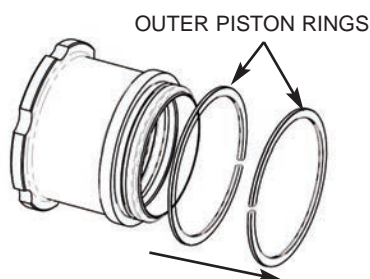

Figure 11D
3. With the retaining ring removed, slide the two outer piston rings off the piston (Figure 11D).